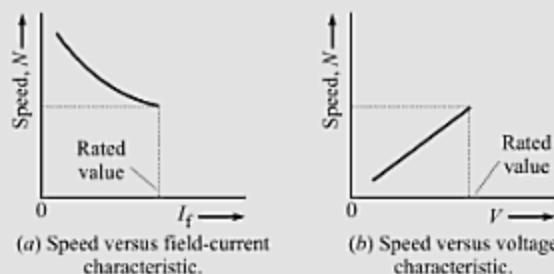

Fig. 16.23 Speed control of dc shunt motor.
1. The speed versus field-current characteristic curve and the speed versus armature-voltage characteristic curve are plotted in Fig. 16.23.